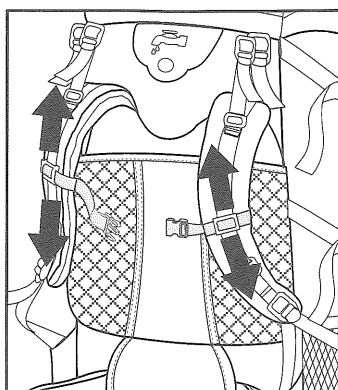

Figure 2H
E. OPTIONAL- Position the sternum strap (Figure 2H) on your chest, and pull it snug. The sternum strap should cross your chest high, just below your clavicle, so it doesn't interfere with your breathing. Some people find it more comfortable not to use the sternum strap when breathing hard—especially at altitude.